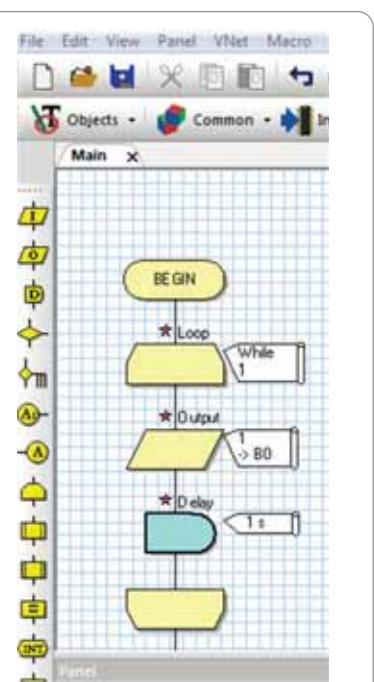

Figure 4: Insert one-second delay after turning the port pin ON
As an example consider the 'Motormind' PC software illustrated in Figure 4. Working in conjunction with a suitable evaluation board, Motormind allows engineers to transfer key parameters to a target microcontroller (e.g. pole pairs, current settings, rotational information, acceleration and encoder details) and modify system settings including PI control, deadtime, PWM frequency and shutdown/start-up behaviour. Because the motor can run immediately with the new settings without software recompilation custom motor set-up is possible within an hour and values can be changed in real time as required. The software provides various views - including a speed and torque display, a 'statistics view' and a CPU load monitor – that allow designers to observe in real time how modifying various motor control parameters effects motor behaviour, MCU performance and efficiency during acceleration, operation at target speed, and deceleration. In addition an integrated μDSO capability allows designers to quickly identify and resolve bugs and problems during prototyping and testing.
3. Insert a Delay block after turning the port pin ON as shown in Figure 4. Set the delay property to 1 second.